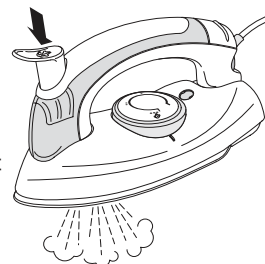

Figure 4 Using a steam shot
6. While you are ironing you can press the steam button firmly to give a shot of steam (see Figure 4).